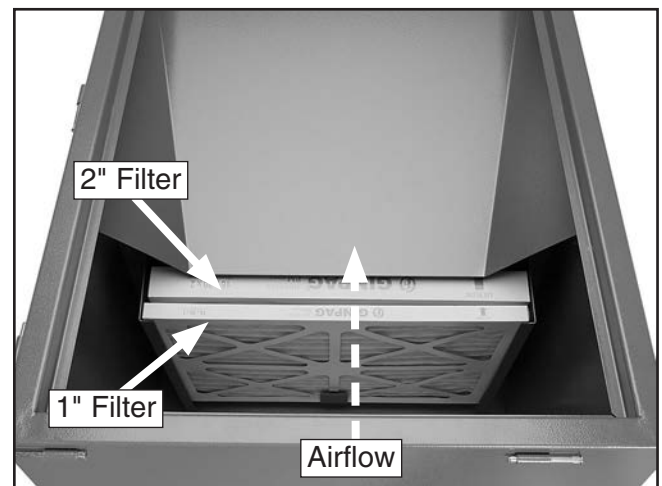

Figure 6. Filters installed in filter bay.
5. Install 2" thick filter in filter bay inside downdraft table cabinet, as shown in **Figure 6**, then install 1" thick filter in front of it.